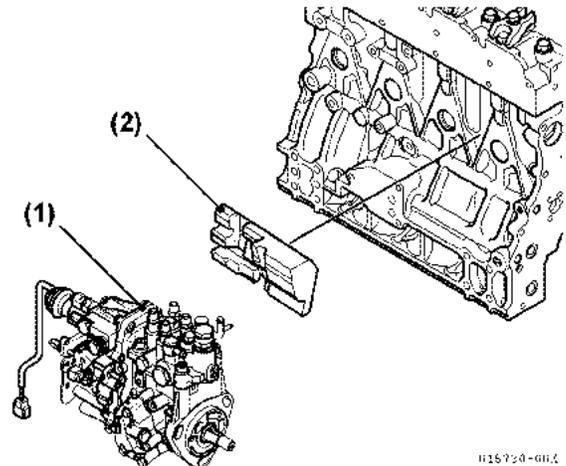

Figure 6-50
12. Verify the fuel injection pump insulator (Figure 6-50, (2)) is not damaged, if equipped. Reinstall the insulator and intake manifold if previously removed.